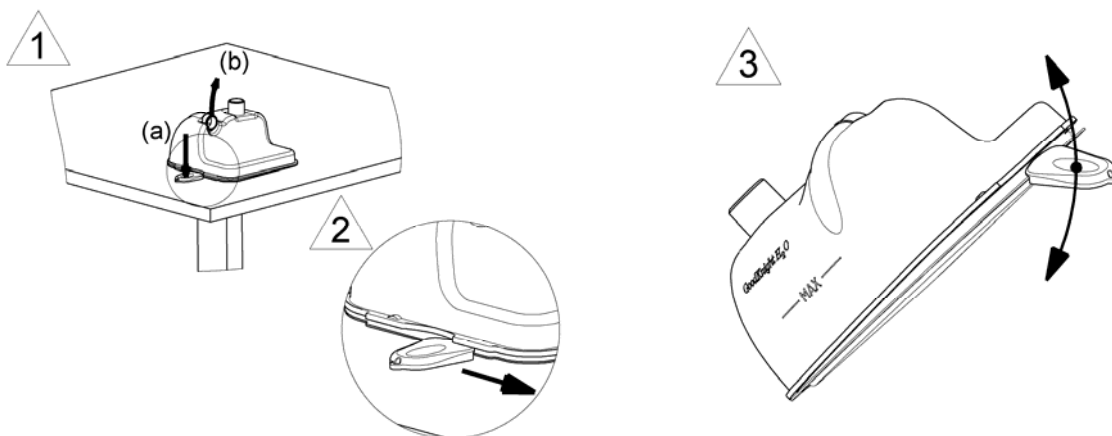

Figure 4 – View of the Water Chamber
3. Empty the water chamber, then open it by separating the upper part from the base, as shown in Figure 4. To facilitate opening the chamber, use the following method :